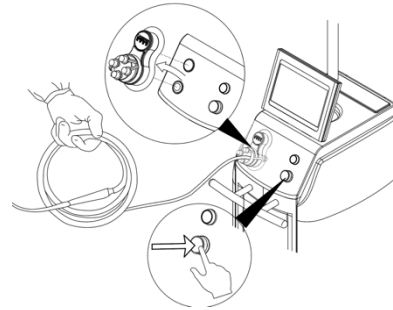

Figure 30 To Shutdown Suction
- c. Push the “Suction Off/Stop Docking” button on the front panel to stop fluid suction (Figure 30).